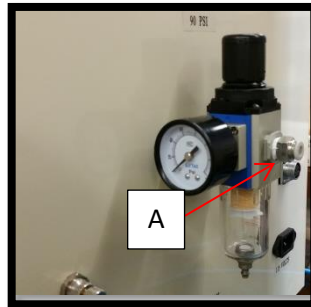

Figure 2
- Plug an air hose into the regulator assembly. If you do not have the correct hose to fit the factory installed air fitting, any suitable fitting will work. You will need 90 PSI at 3 CFM to run the CMjr. Figure 2